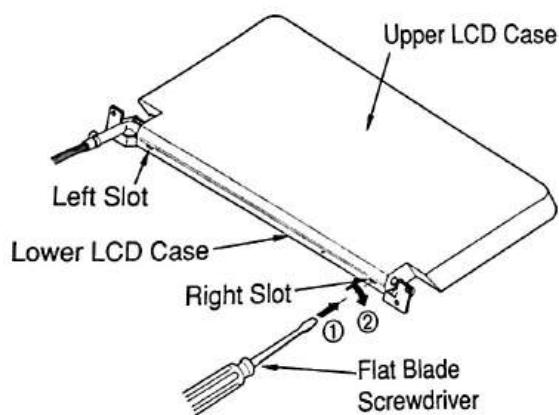

Figure 20
- (6) Turn over the LCD panel and insert the flat blade screwdriver in the slot of the lower LCD case as shown in Figure 20.